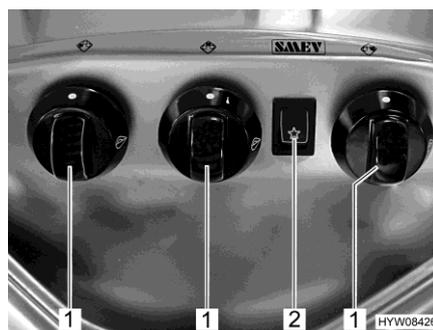

Fig. 126 Operating controls (gas cooker)
- Turn the control knob (Fig. 126,1) on the burner you wish to use to the ignition position (large flame).
- Press rocker switch (Fig. 126,2). Ignition sparks are generated at the burner.